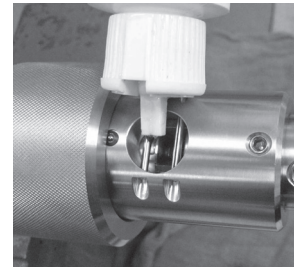

Fig. 23 Applying cutting fluid through the chip window
16. Apply cutting fluid through the chip window to the coning blade and end of the tube. (Fig. 23)